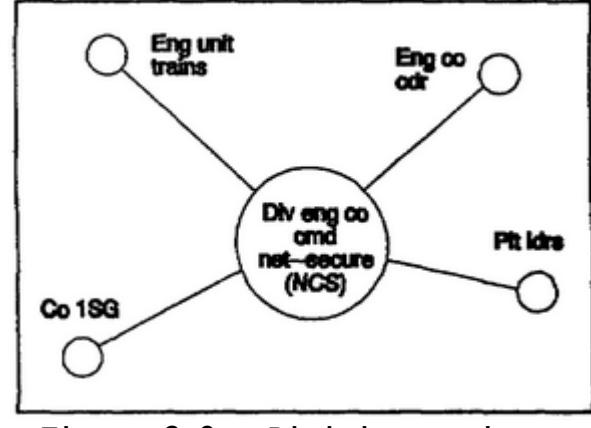

Figure 3-8. Division engineer company command net-secure.
(2) Primary functions.
(3) Secondary functions. (These items are primary functions of the TOC.)
b. TOC. Division engineer companies support a maneuver TF in a command or a support relationship. In a command or DS relationship, the division engineer company collocates its TOC (Figure 3-8) with the TF TOC to provide the required engineer representation. In a GS relationship, the company TOC locates where it can best control the work effort. The division engineer company commander can best control engineer operations in the TOC. His company operates 24 hours a day to execute the operation, watch the current fight, and plan the future fight.
- (d) Division engineer company command net--secure (nine each division) (Figure 3-8, page 3-10).